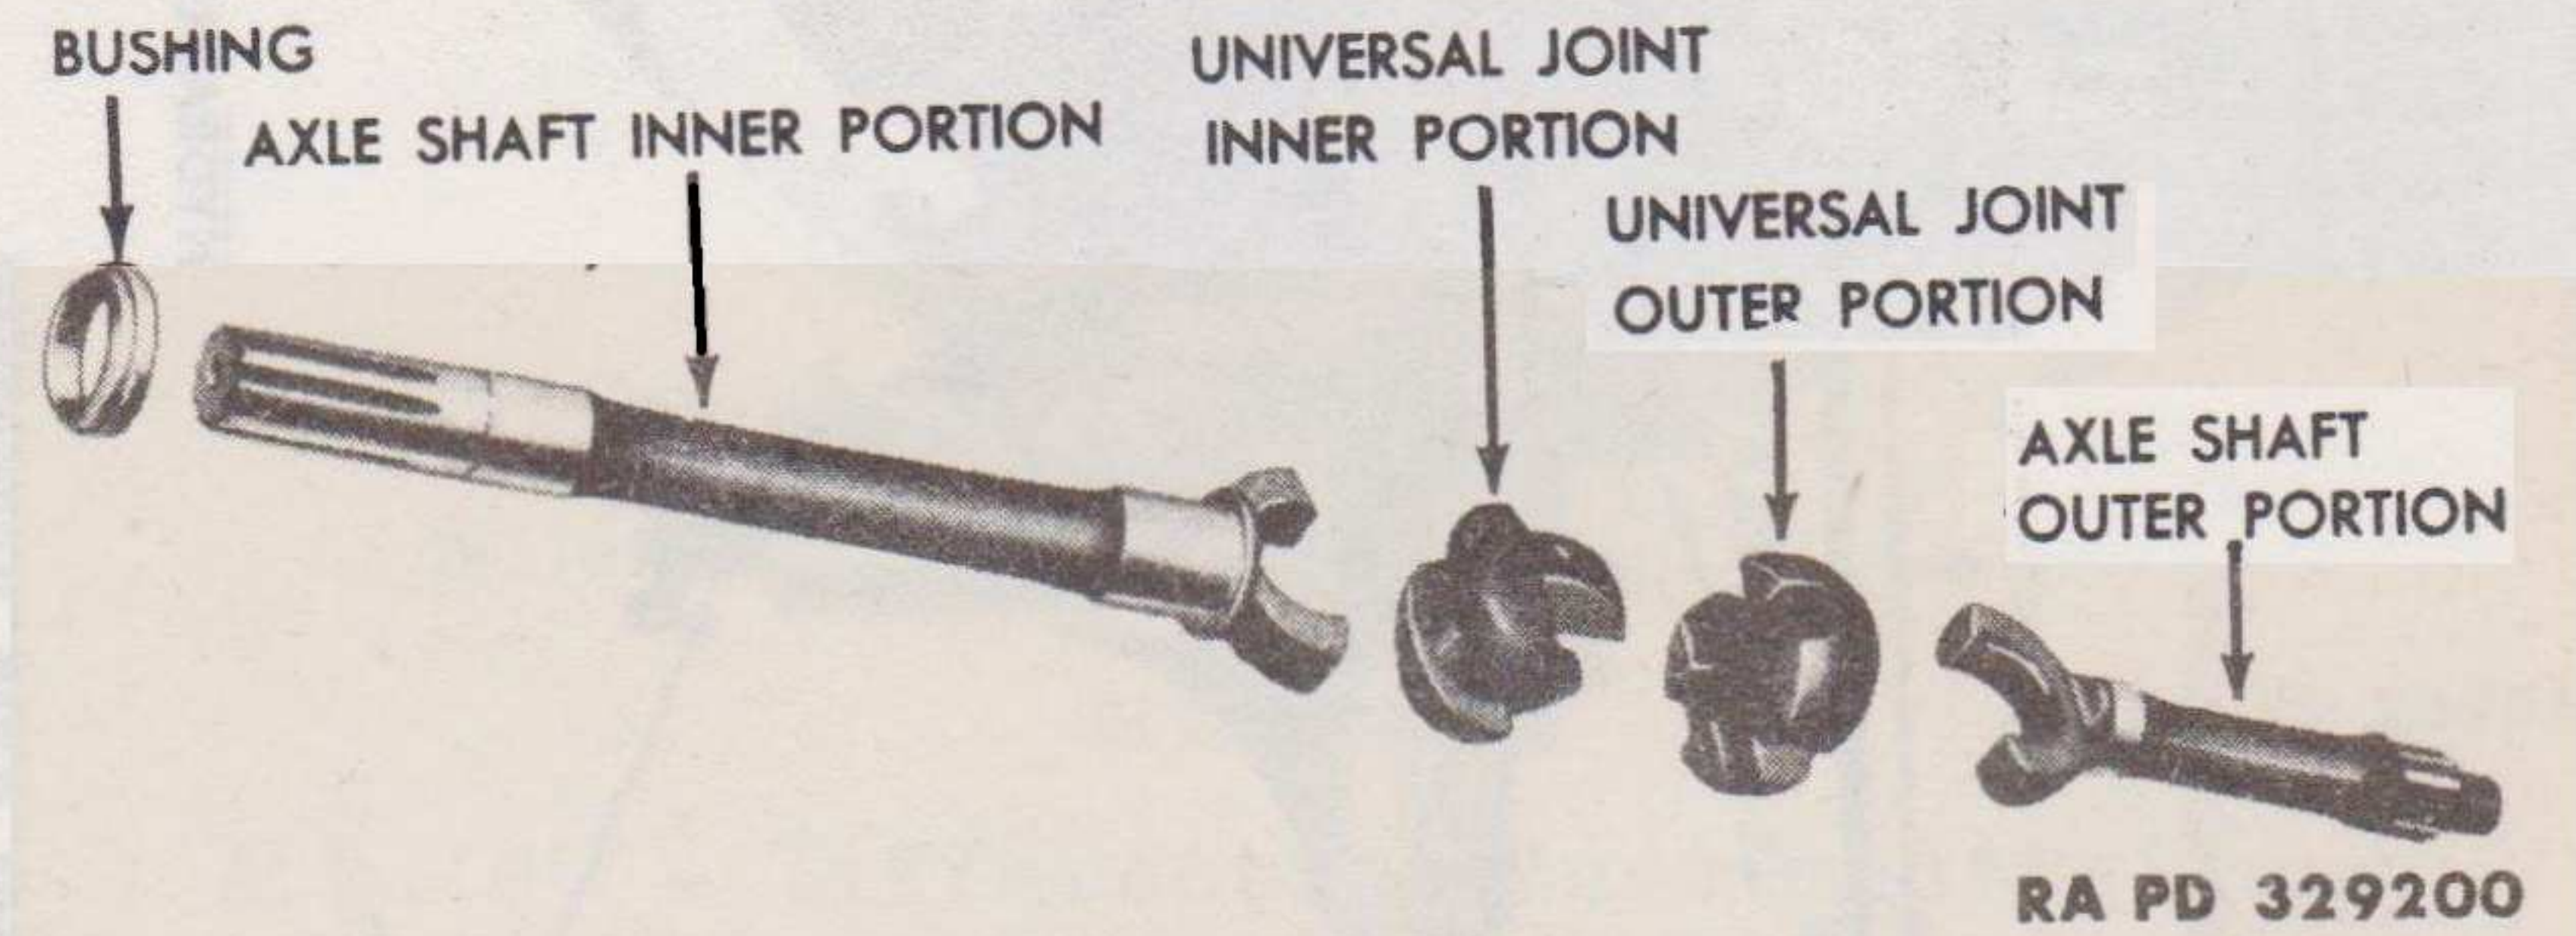

Figure 45 — Front Axle Shaft — Exploded View (Tracta Type)
(3) **TRACTA UNIVERSAL JOINT** (fig. 45). Remove the outer portion of the axle shaft and the outer portion of the universal joint from the axle housing. Pull the inner portion of the axle shaft and the inner portion of the universal joint out of the housing.
(c) *Tracta Universal Joint* (fig. 45). Replace the inner portion or the outer portion of the axle shafts, if they are bent or have worn splines. Replace the inner portion or the outer portion of the universal joints, if they are cracked or excessively worn. Small nicks or scratches can be removed with a fine stone.